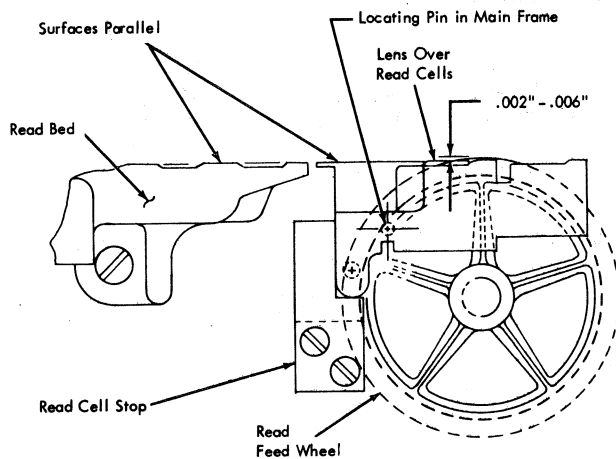
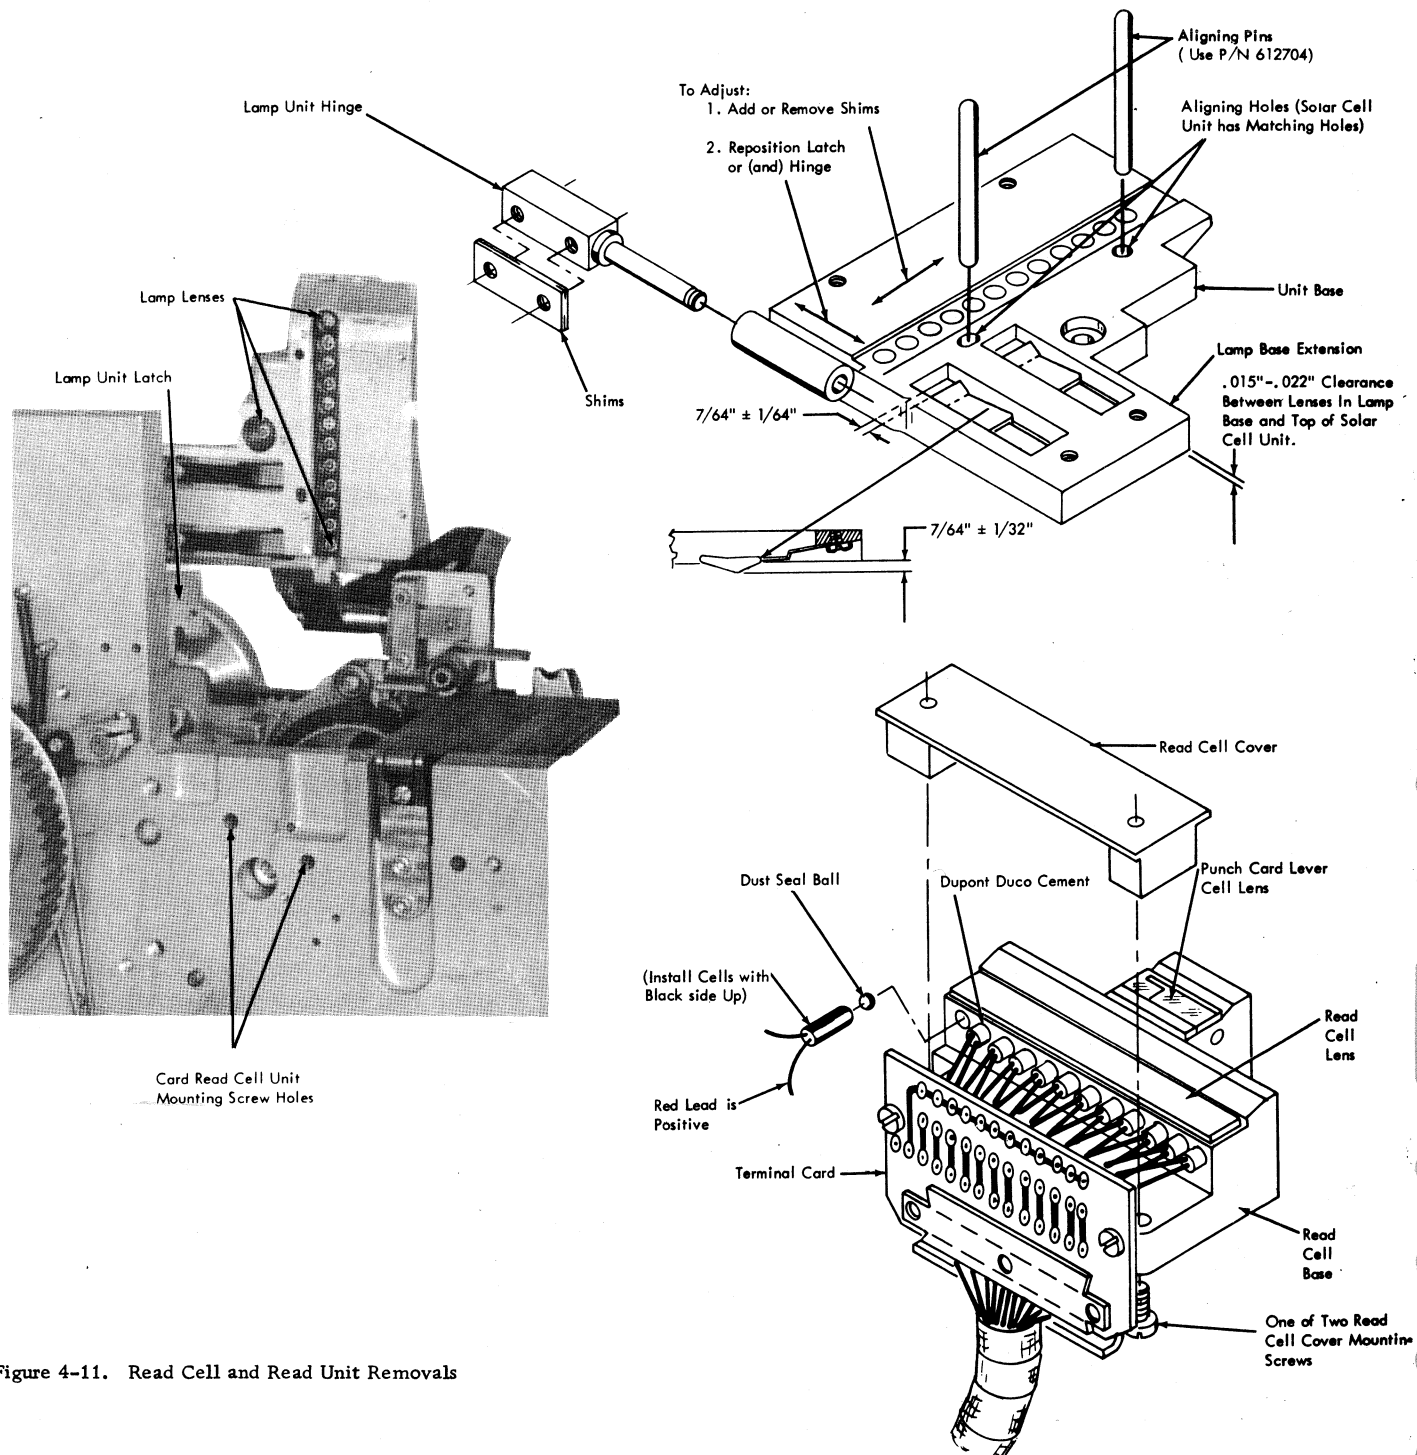

Figure 4-10. Read Cell Unit Adjustment
Figure 4-11. Read Cell and Read Unit Removals
Position cell unit over its locating pin so top of read cell lens is parallel to the card line and below periphery of read feed wheel by .002" to .006" (Figure 4-10).
A read cell stop is provided as a reference in case of future cell unit removal. With the solar cell unit adjusted, set the read cell stop against the surfaces of the cell unit as shown in Figure 4-10.
The read cell unit is fastened to the main machine frame by two mounting screws. These screws are located under the left end of the card hopper bed (Figure 4-11) and are accessible from the front of the machine. To remove read cell unit, loosen the mounting screws. When replacing the cell unit, be certain it is firmly against the stop (Figure 4-10) before tightening mounting screws.
1. Remove card read solar cell unit. See Figure 4-11.
- c. Insert timing pins through alignment holes in lamp unit and cell unit. See Figure 4-11.
- d. If the timing pins are tight, add or remove .002" shims between hinge and machine frame, or reposition hinge and latch. See Figure 4-11.
Adjust the springs so their ends will be  $.105 \pm .010''$  from the end of the lamp base opening (Figure 4-11). Tilt lamp unit open and check for free spring position shown (Figure 4-11), replace or form as required. Spring must move freely within opening.